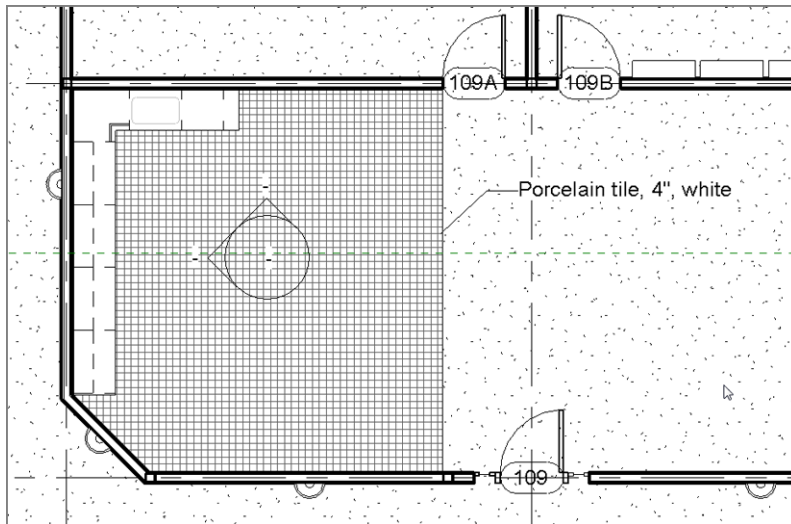

FIGURE 11.71: Placing the “Porcelain tile, 4”, white” note
7. Place your cursor over the tile floor, as shown in Figure 11.71. The tag reads “Porcelain tile, 4”, white.” When you see this tag, pick a point on the tile floor, and then place the note to the right, as shown in the figure.